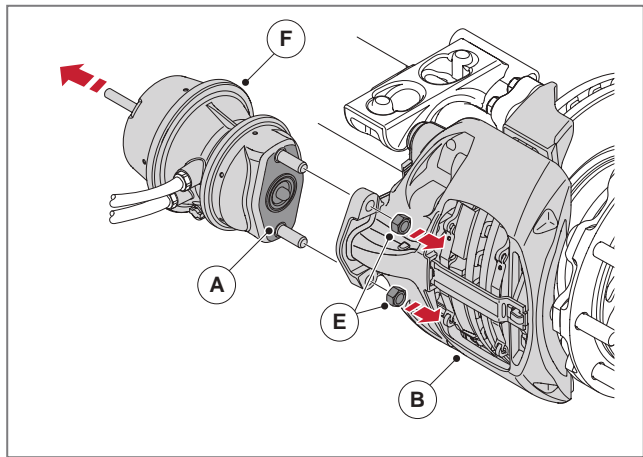

Fig. 24 - Removing the brake chamber components
4. If applicable, ensure that the spring brake chamber see ► **Fig. 24** (F) is fully disengaged and mechanically secured in this position.
6. Remove the two nuts (E) holding the brake chamber. Remove the brake chamber (A/F) from the brake calliper (B), see ► **Fig. 24**.